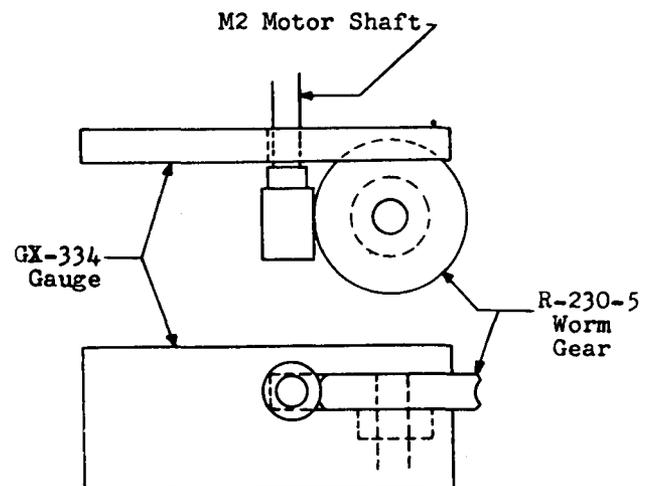

Fig. 34
- (8) When it has been necessary to move the retreating and alarm cam contacts, return the TRS MOT dial to the reading noted in (2) by turning the centering cam gear wheel. Raise the transmitter motor drive shaft and make certain that the worm on the drive shaft and the Std. 3270-D-15 worm gear are in proper mesh. Rotate the shaft to insure this fit. Leave the final tightening up of the three mounting screws of the casting supporting the drive shaft till later. Remount the M2 motor on the controller. Place the GX-334 gauge in position as shown in Fig. 34. The gauge fit should be a smooth sliding fit over the M2 motor shaft and face of the R-230-5 worm gear. Shift the position of the M2 motor and the transmitter motor drive shaft to obtain this fit. Tighten the motor mounting screws. Tighten the three mounting screws of the drive shaft casting. Connect the M2 motor leads to the terminal block. Replace fuses S1, S2 and S3 and alarm fuses S1, S2 and S3.
- (9) Release the armature of relay BB and then release the armature of relay MJ.
(10) Adjust for possible end play of the motor shaft as follows: If the motor appears to be too noisy, loosen the small set screw at the large plug screw in the upper end cover, using the 3-1/2 inch cabinet screwdriver. Then with the motor running, very gently adjust the large plug screw, using the 207 tool, until the noise decreases a reasonable amount or until the plug just binds against the thrust plate in the cover. Under the latter condition continue to turn in a clockwise direction for approximately 1/8 of a turn. Tighten the set screw to hold the plug screw in place.
(5) When it has been necessary to move the retreating and alarm cam contacts, return the TRS MOT dial to the reading noted in (1) by turning the centering cam gear wheel. Raise the transmitter motor drive shaft and make certain that the worm on the drive shaft and the Std. 3270-D-15 worm gear are in proper mesh. Rotate the shaft to insure this fit. Leave the final tightening up of the three mounting screws of the casting supporting the drive shaft until later. Remount the M2 motor on the controller. Place the GX-334 gauge in position as shown in Fig. 34. The gauge fit should be a smooth sliding fit over the M2 motor shaft and face of the R-230-5 worm gear. Shift the position of the M2 motor and the transmitter motor drive shaft to obtain this fit. Tighten the motor mounting screws. Tighten the three mounting screws of the drive shaft casting. Connect the M2 motor leads to the terminal block. Replace fusetrons S1, S2 and S3 and alarm fuses S1, S2 and S3.
To replace the worm on the transmitter motor drive shaft, take out the screws in the transmitter motor drive shaft mounting using the 4 inch regular screwdriver, and remove the shaft and mounting. Loosen the set screw of the worm gear and remove the gear from the shaft. Remove the shaft from the mounting. Force out the small pin which holds the worm to the shaft and remove the worm. Place the new worm on the shaft and force the pin into position. Insert the shaft in the bearings. Remount the assembly in place, making certain that the worm on the drive shaft and the Std. 3270-D-15 worm gear are in proper mesh. Rotate the shaft to insure this fit. Leave the final tightening up of the three mounting screws till later. Place the R-230-5 worm gear on the shaft but do not tighten its set screw yet. Place the GX-334 gauge in position as shown in Fig. 34. The gauge fit should be a smooth sliding fit over the M2 motor shaft and face of the R-230-5 worm gear. Shift position of the casting to insure this fit. Tighten set screw of the R-230-5 worm gear on shaft. Tighten the three mounting screws securely. Do not at anytime change position of M2 motor.
To replace this worm gear, loosen its set screw using the KS-6854 screwdriver, remove the gear and place the new gear on the shaft. Use the GX-334 gauge to obtain correct location of the gear on the shaft. Place the gauge in position as shown in Fig. 34. The gauge fit should be a smooth sliding fit over the M2 motor shaft and face of worm gear. Tighten the set screw of the gear.